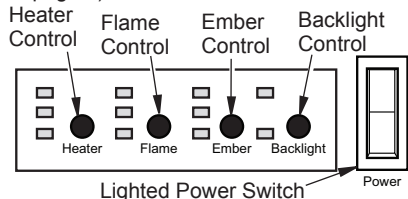
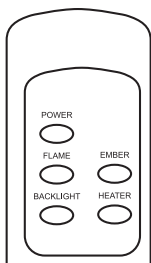

Figure 5 - Controls For Electric Fireplace
Figure 6 - Remote Control For Electric Fireplace
The controls (see Figure 5) are located behind hinged control panel door. If using heater, control panel door will be hot during and immediately after operation. Open door by pressing on right side. A spring magnet will push door forward. Pull door down to open.
2. Turn on lighted power switch (see Figure 5).
3. Adjust Flame/Ember/Backlight/Heater to desired settings using the control pad on fireplace (Figure 5) or remote control (Figure 6, page 8). Figure 7, page 8, shows fireplace settings available. Default settings are circled. Press control pad or remote control buttons once and release to adjust settings.